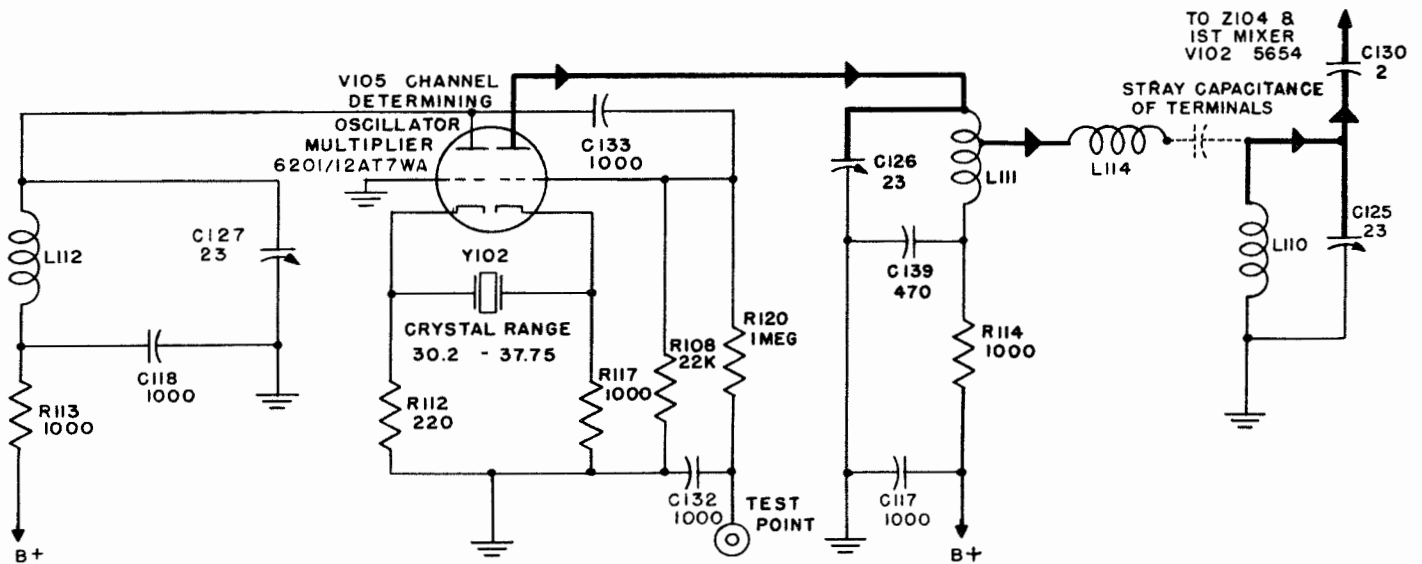

Figure 2-4. Simplified Schematic, Channel Determining Oscillator and Multiplier
(3) CHANNEL-DETERMINING OSCILLATOR-MULTIPLIER.—This portion of the RF chassis assembly determines the frequency of the incoming signal to which the receiver will respond if RF circuits are properly resonated. See figure 2-4. It consists of a type 6201/12AT7WA dual triode tube (V105) whose sections function as a crystal oscillator and frequency multiplier. The oscillator-multiplier section generates a signal whose frequency is 23 Mc above that of the incoming signal. Mixing this signal with the incoming signal provides the desired 23 Mc first IF signal. The channel-determining crystal (Y102) is a nontemperature controlled type CR-23/U, selected to operate in the frequency range between 30.2 to 37.75 Mc. This crystal is not supplied with the receiver as its frequency will depend on the signal frequency to be received. The oscillator portion of this circuit operates in the following manner. With the proper crystal inserted in crystal socket XY102, only the crystal frequency is coupled to the cathode resistor R112 of the grounded-grid section of the dual triode V105. The crystal frequency is amplified in this section of the dual triode; and when the plate circuit L112 is brought to resonance at the crystal frequency by means of the variable capacitor C127, sufficient drive will be coupled through coupling capacitor C133 to the grid of the second section of the dual triode. This grid is driven to a point where grid current will flow through grid resistor R108, thus producing a DC grid bias voltage which flows through a decoupling filter R120 and C132 and is present at the oscillator test point. This voltage can then be read by connecting a vacuum tube voltage meter to this test point. By tuning C127 for maximum at this test point, the crystal oscil-